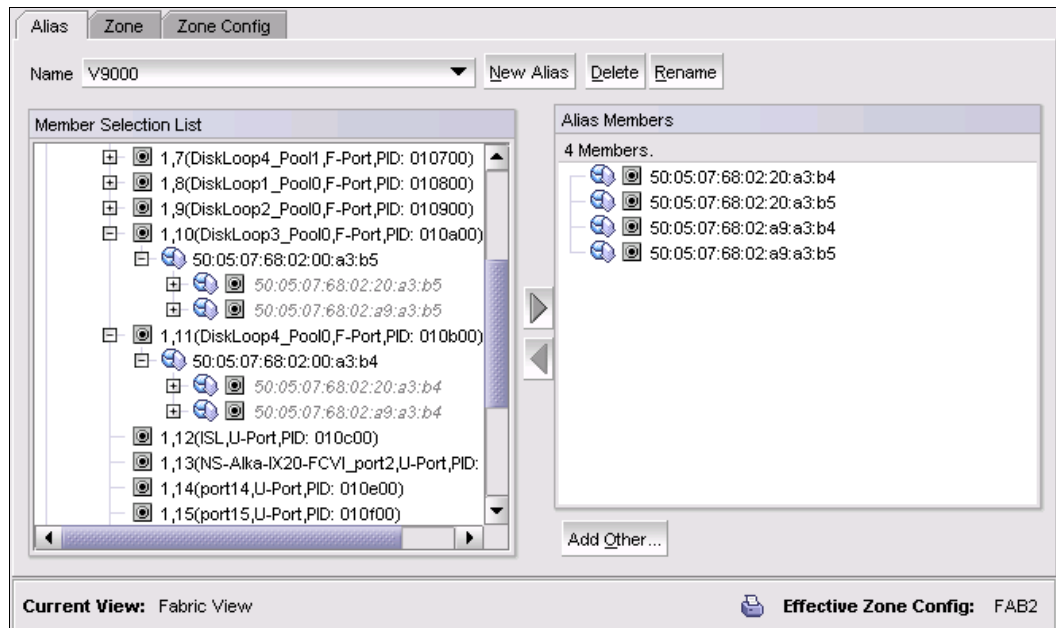

Figure 7-26 The virtual NPIV ports are added to alias V9000
- The next step is to prepare the zoning configuration for NPIV use. Figure 7-26 shows the new virtual NPIV ports have been added to the alias V9000 so that both physical WWNs and Virtual WWNs are in the zone. Save the configuration and enable it.